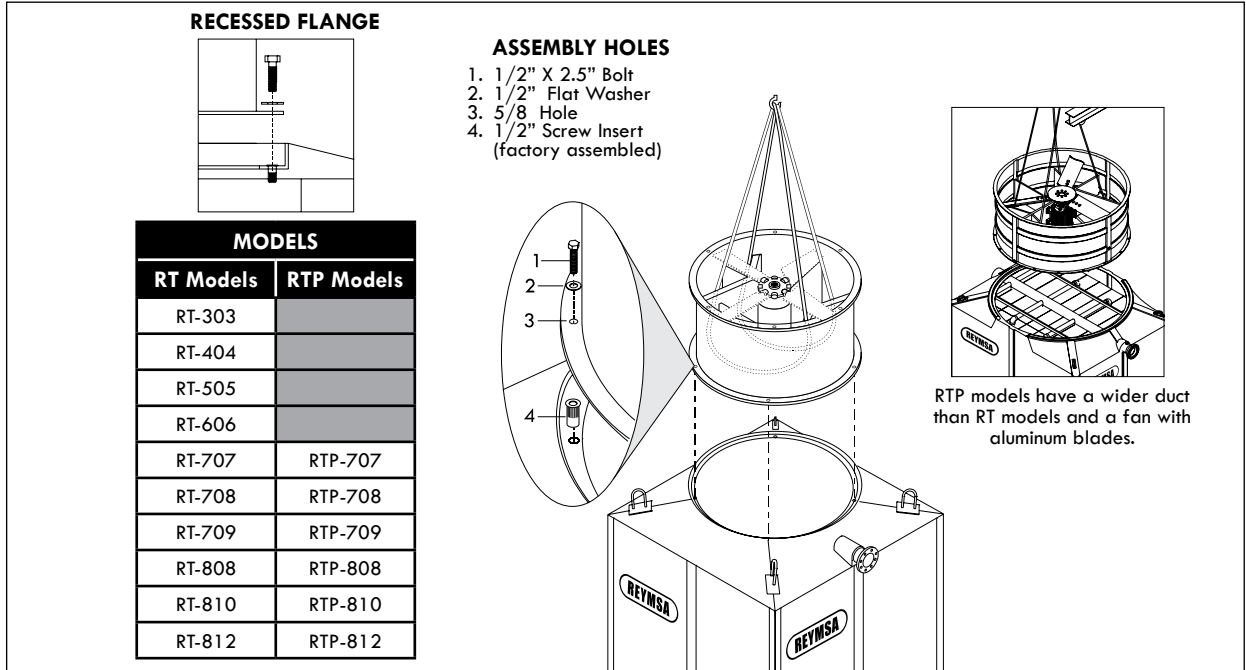

Figure A-11: Fan Duct assembly for a Single Fan Tower
- M. Then cradle/straddle the fan support with the straps (as shown in figure A-11) so you can lift the fan duct with a crane and assemble it.
- N. Now place the fan duct on the receiving flange of the upper section; make sure the bolt holes and the marks inside the fan duct and the distribution manifold (located inside of body section) are aligned (see Figure A-11 and A-12). Secure it with the stainless steel nut and bolt sets supplied by REYMSA.